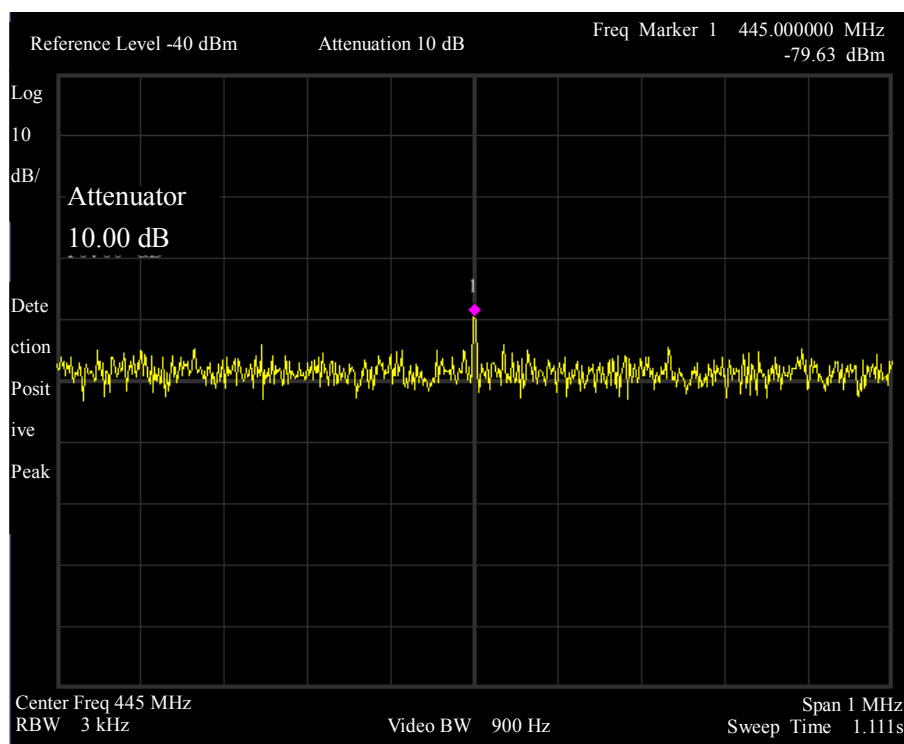

Fig. 3-11 Measurement at Auto Mode of Attenuator
- e) Reduce the span to 100kHz as shown in Fig. 3-11. Repeat the above steps as the case may be, and ensure that the signal peak is at the center frequency of spectrum analyzer.